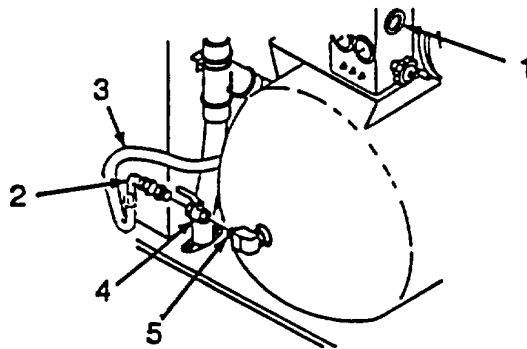

Figure 4-26. Shut-Off Valve
a. Removal. (Refer to Figure 4-26).